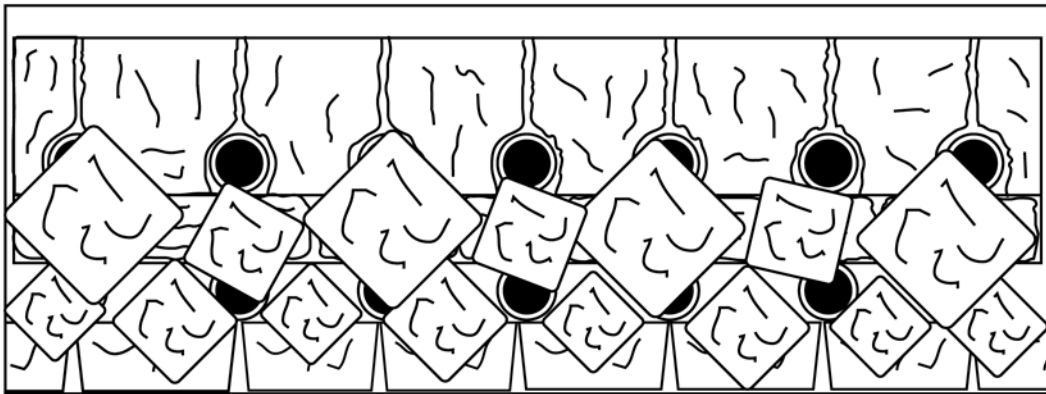

Figure 12.
- 4** Place 4 large pieces of coal and 3 small pieces of coal as shown in Fig 12.